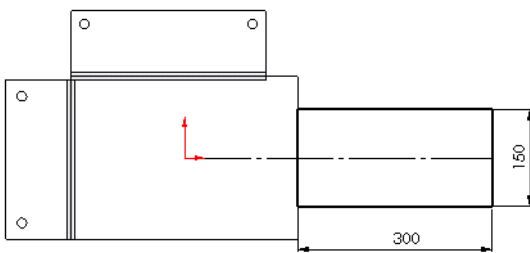

Figure 16-148 Sketch of the tab feature
2. Create the sketch as shown in Figure 16-148.